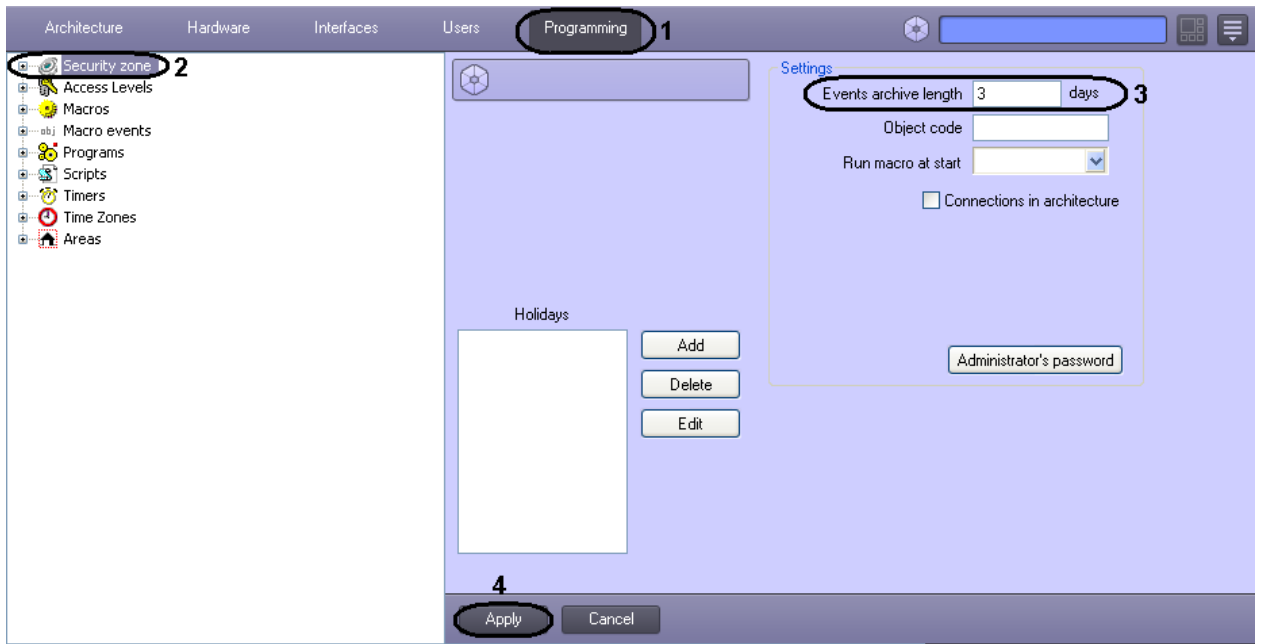

Fig. 6.5—1 Configuring the events archive length
1. Go to the **Programming** tab of **System settings** dialog box (Fig. 6.5—1, 1).
2. Go to the **Security zone** object's settings panel (Fig. 6.5—1, 2).
3. Enter the period of events storage in the database in the **Events archive length ___ days** field (Fig. 6.5—1, 3). For example, specify the archive storage period equal to 30 days.
4. Click the **Apply** button (Fig. 6.5—1, 4).